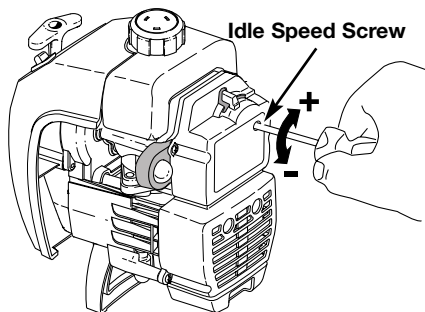

Fig. 25
The idle speed of the engine is adjustable through the air filter/muffler cover (Fig. 25).
2. Release the throttle trigger and let the engine idle. If the engine stops, insert a small phillips or flat blade screwdriver into the hole in the air filter/muffler cover (Fig. 25). Turn the idle speed screw in, clockwise, 1/8 of a turn at a time (as needed) until the engine idles smoothly.